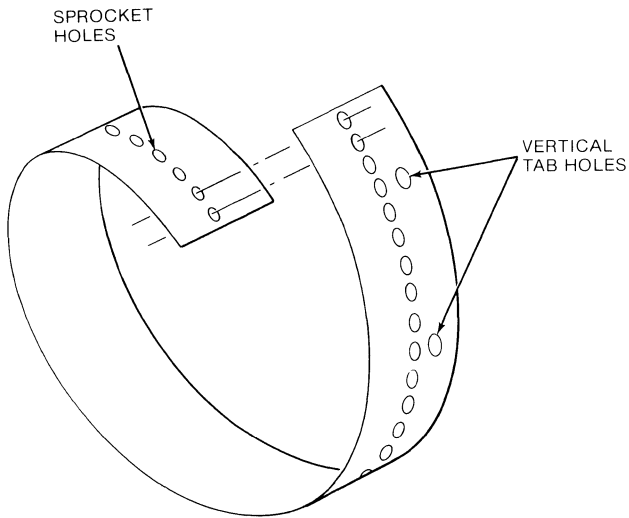

FIGURE 102. TAPE SPLICING
1. As shown in Figure 102, overlap the two ends of the tape (X and Y), and place the sprocket holes over one another to properly align the two ends. Arrange the splice so that the distance between consecutive form feed holes is the same all around the tape.